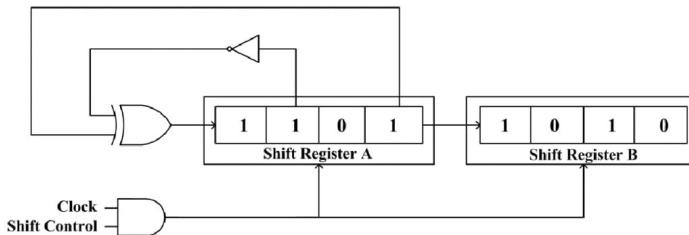

Fig. 5.12: circuit Diagram
12. In the circuit shifter in Fig. 5.12, the initial binary content of the shift register A 1101 and that of shift register B is 1010. The shift registers are positive edge triggered, and the gates have no delay. when the shift control is high,what will be the binary content of the shift registers A and B after clock pulses?